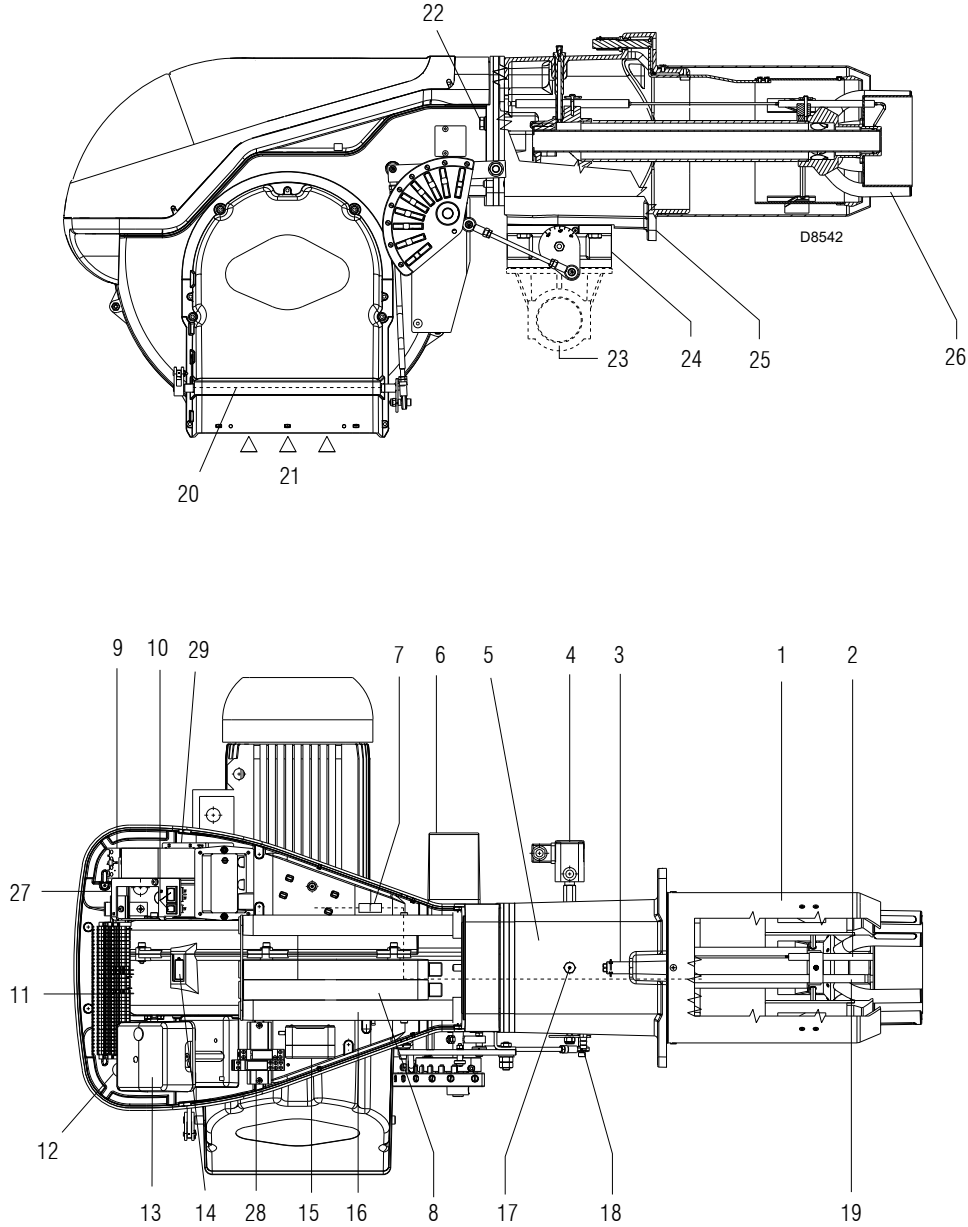

Fig. 7
- Extensions for slide bars 16)(Fig. 7 on page 14) (models having a long blast tube) No. 2
Power increase - power reduction 11 Terminal strip 12 Fairleads for electrical connections by installer 13 Flame control with lock-out pilot light and lock-out reset button 14 Flame inspection window 15 Minimum air pressure switch (differential operating type) | <ul style="list-style-type: none"> 16 Slide bars for opening the burner and inspecting the combustion head 17 Gas pressure test point and head fixing screw 18 Air pressure test point 19 Flame sensor probe 20 Air gate valve 21 Air inlet to fan 22 Screws securing fan to sleeve 23 Gas input pipework 24 Gas butterfly valve 25 Boiler mounting flange 26 Flame stability disk 27 Bracket for mounting the modulating operation kit 28 Clean contact relay 29 Plug for connection of modulating operation kit <p>Two types of burner failure may occur:</p> <p>Flame control Lock-out: if the flame control 13)(Fig. 7) push-button lights up. it indicates that the burner is in lock-out. To reset, press the push-button.</p> <p>Motor trip: release by pressing the push-button on thermal relay 9)(Fig. 7).</p> |